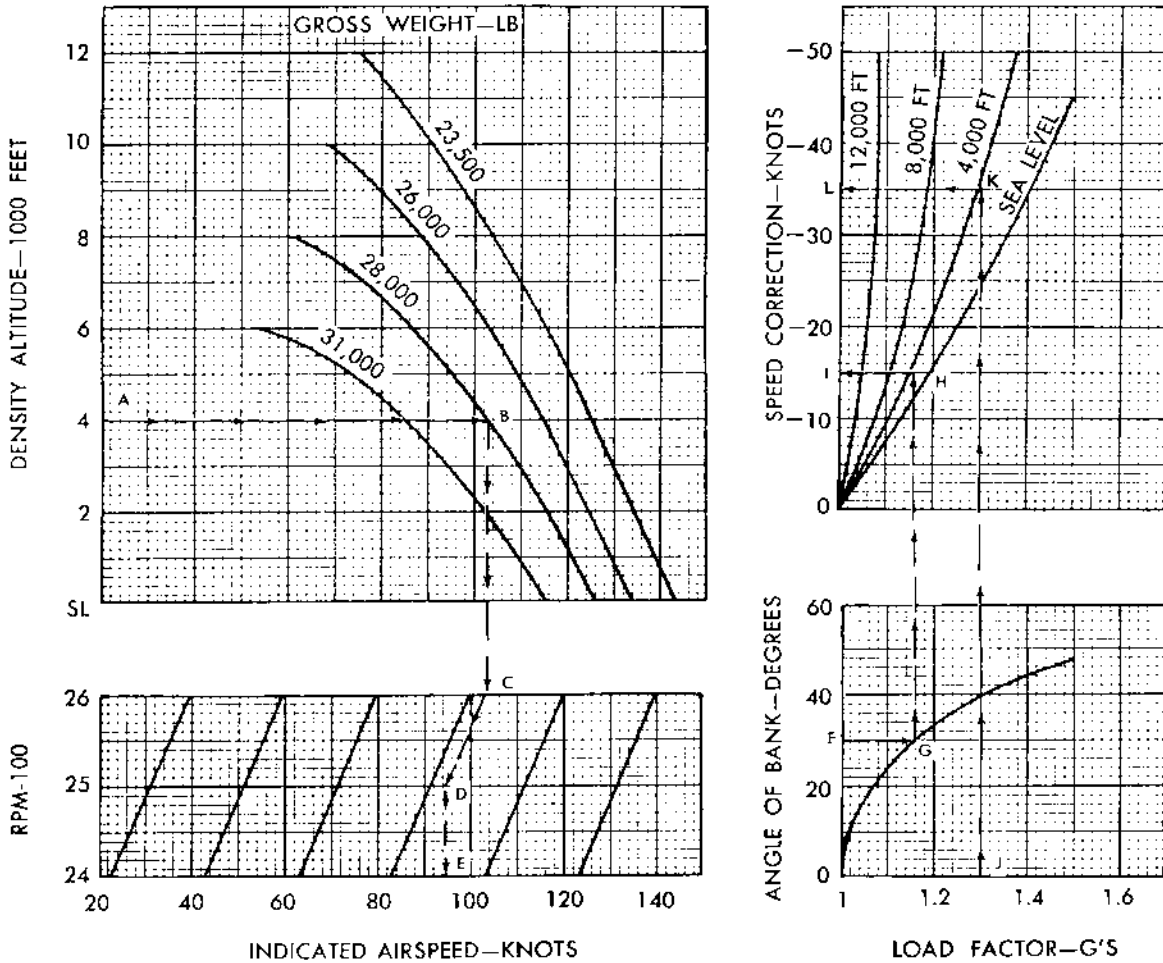

Figure 6-5. Blade Stall Chart — 72-Foot Main Rotor
1. Enter the chart (figure 6-5) at a density altitude of 4000 feet (Point A).
2. Enter the chart (figure 6-5) at an angle of bank of 30 degrees (Point F).
2. Enter the chart (figure 6-5) at a load factor of 1.3G's (Point J).